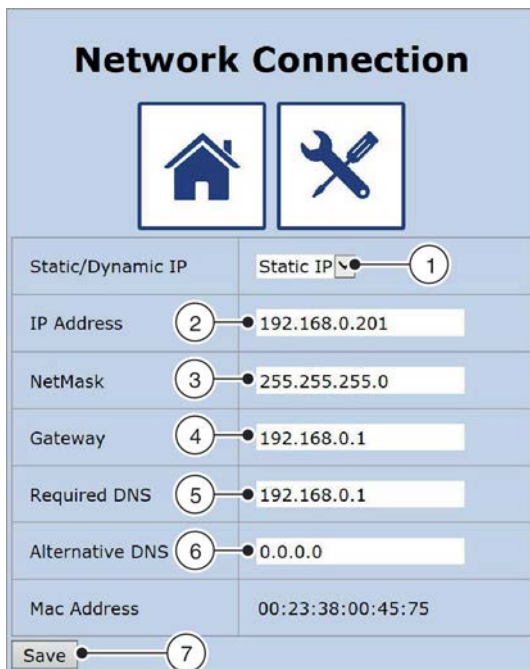

Fig. 69: Network connection settings
⇒ The 'Network Connection' screen displays (Fig. 69).
3. ▶ Select 'Static IP' from the drop down list (Fig. 69 /1).
4. ▶ Enter the static IP address (Fig. 69 /2). The default IP address is 192.168.0.201.
5. ▶ Enter the subnet mask (Fig. 69 /3).
6. ▶ Enter a gateway (Fig. 69 /4).
7. ▶ Enter a DNS (Fig. 69 /5).
8. ▶ Enter an alternative DNS (Fig. 69 /6).
9. ▶ Click on 'Save' (Fig. 69 /7).